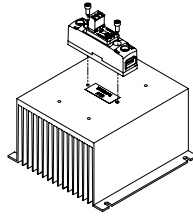

fig. 1 SSR mounted on HS053 heat sink
- SSR housing mounting holes have a diameter of 0.341 in (8.66 mm). Two screws are needed to mount the SSR onto a heat sink (See fig.1). Mounting screws are sold separately as HK8 and are suitable for all Crydom heat sinks.